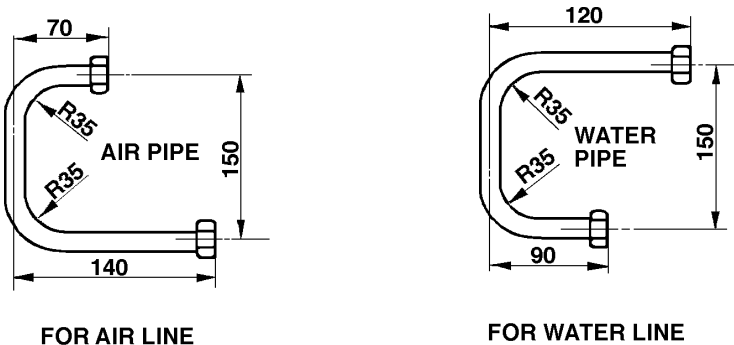

Fig.5-2 Flexible Pipe (Junction Box Type)
2. Junction Box Type (Fig 3-4 or Fig 3-5 & Fig.5-2)
(1) Bent the stainless flexible pipes as shown in Fig.5-2. Connect the water and air supply lines connector to each stop valve by using the stainless flexible pipes and the packings.